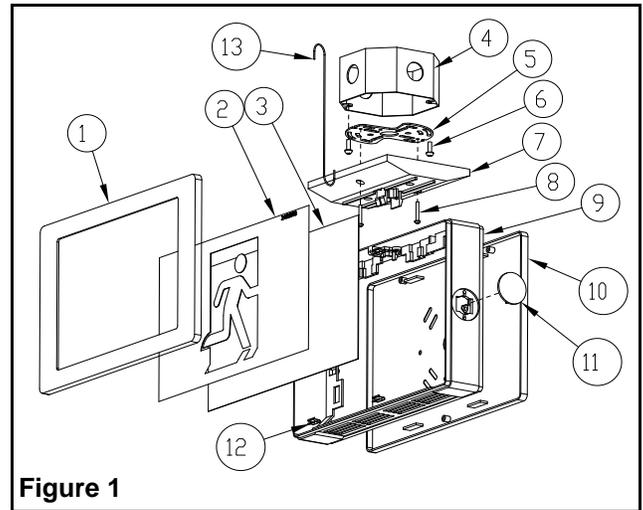
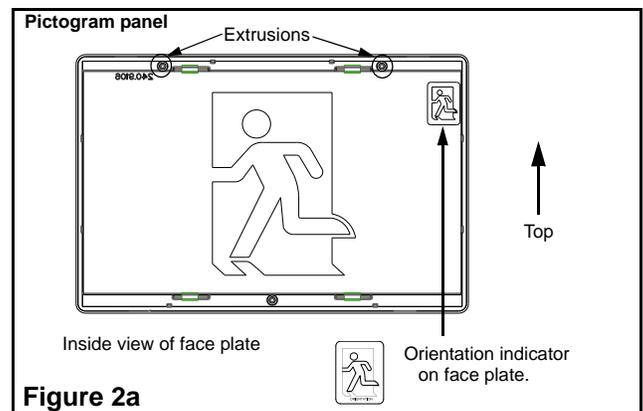
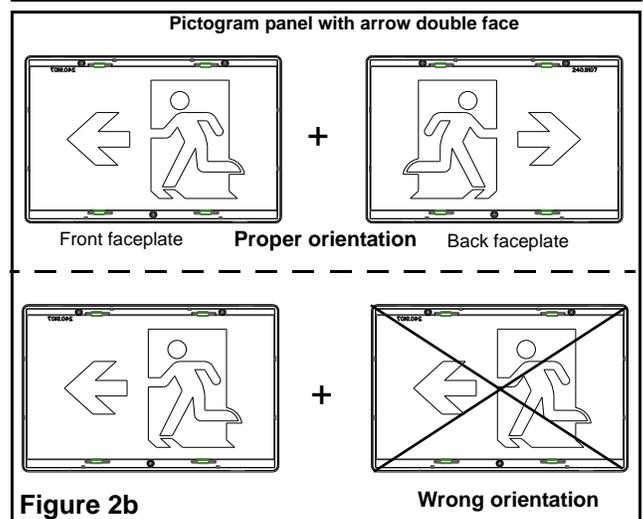

Figure 1
Figure 2a
Figure 2b
3. Remove the face plate using a coin or a screwdriver at the top or bottom of the face plate. For models with vandal resistance option, you will require a special bit to unscrew three(3) screws. Bit sold separately (part number 990.0119).
4. Select the proper pictogram panel (see fig. 2a and b). Place the opal diffuser on top of the pictogram panel while making sure to peel off the protective film (see fig. 1).
**Important!** Need to have faceplate and pictogram panel oriented as per fig.2a and b with the two extrusions on top. For double face units, arrows need to be pointing in the opposite directions as shown in fig.2b.
5. Install the four(4) diffuser clips(13) to secure the panels.
- b. Snap canopy to frame (see fig. 1 and 4).